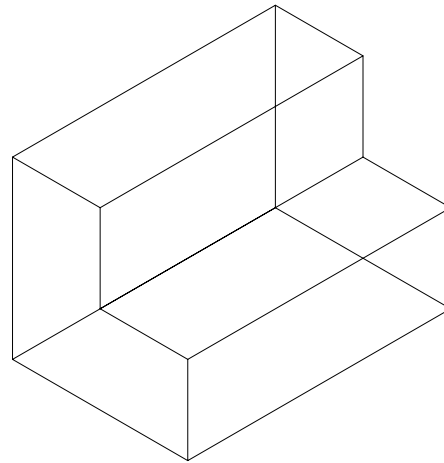

Figure 2-40 Final 3D model for Example 2
9. Similarly, draw other lines to complete the model. The final model should look similar to the one shown in Figure 2-40.